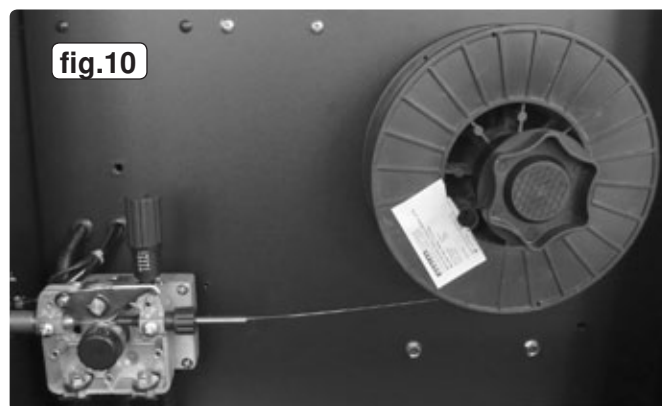

fig.10
- 3.8.1.** Unscrew the locking knob from the end of the spool holder (see fig.7C) and remove the spacer. Slide the reel of wire onto the spool holder and ensure that the clutch pin at the back of the spool holder (E) engages into the guide hole in the wire reel moulding. This will prevent the wire reel from freewheeling on the spool holder. Slide the spacer onto the spool holder and retain it by screwing the knob into place as shown above in fig.9. Ensure that the wire is coming off the bottom of the reel in the direction of the wire drive unit as shown in fig.10.